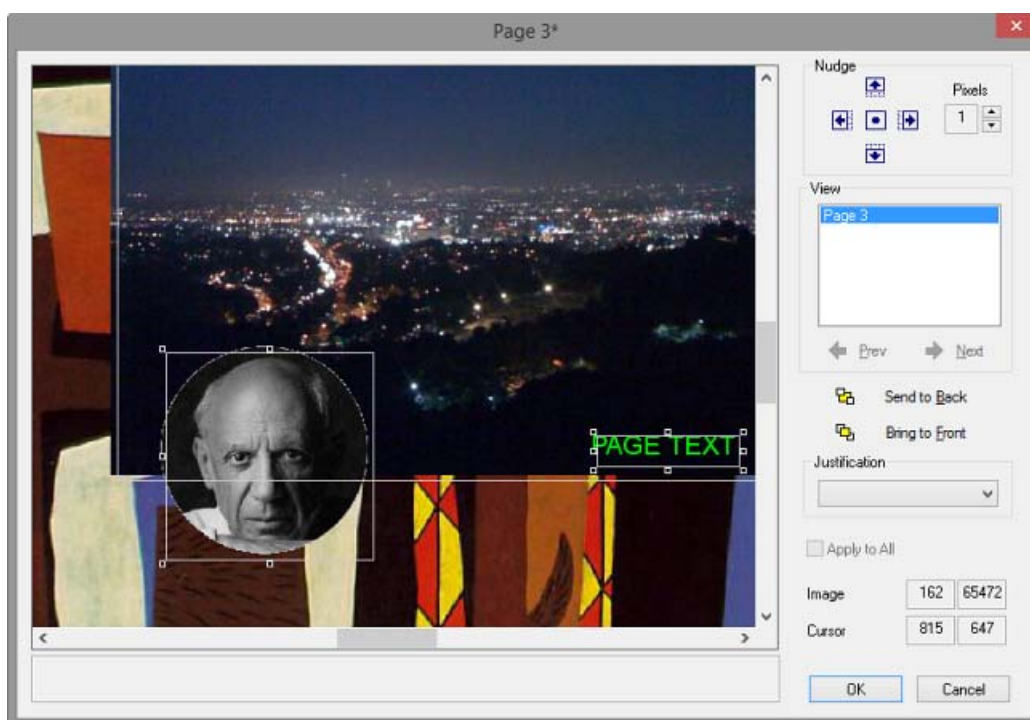

FIG. 27 Image/Text Positioning dialog
1. Right-click on a Page, Popup page or Button state in the *State Manager* window and select **Image/Text Positioning...** to open the *Image/Text Positioning* dialog (FIG. 27):